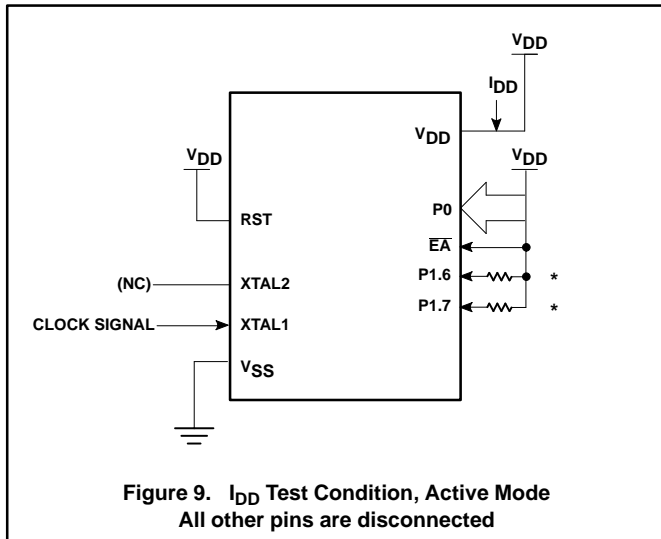

Figure 9. I_{DD} Test Condition, Active Mode
- See Figures 9 through 11 for I_{DD} test conditions.
- The operating supply current is measured with all output pins disconnected; XTAL1 driven with $t_r = t_f = 5ns$; $V_{IL} = V_{SS} + 0.5V$; $V_{IH} = V_{DD} - 0.5V$; XTAL2 not connected; $\overline{EA} = RST = Port 0 = P1.6 = P1.7 = V_{DD}$. See Figure 9.